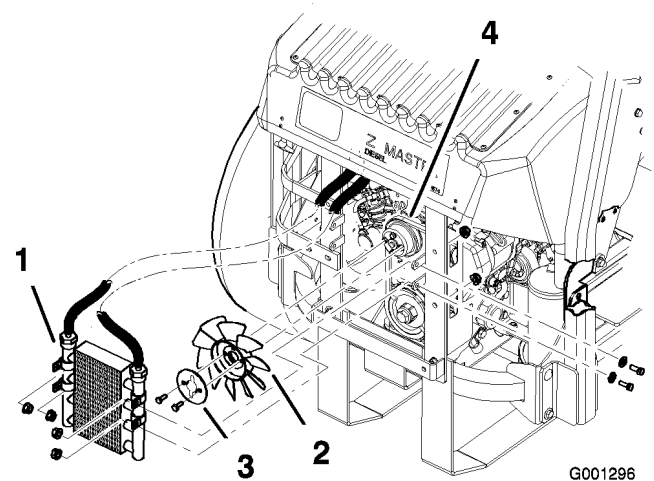

Figure 62
5. Remove the 4 bolts holding the oil cooler and position the oil cooler to the side (Figure 62).
6. Remove the 2 bolts holding the fan and fan plate to the machine (Figure 62).
10. Install the fan and fan plate to the machine with the 2 bolts previously removed (Figure 62).
11. Install the oil cooler with the 4 bolts previously removed (Figure 62).